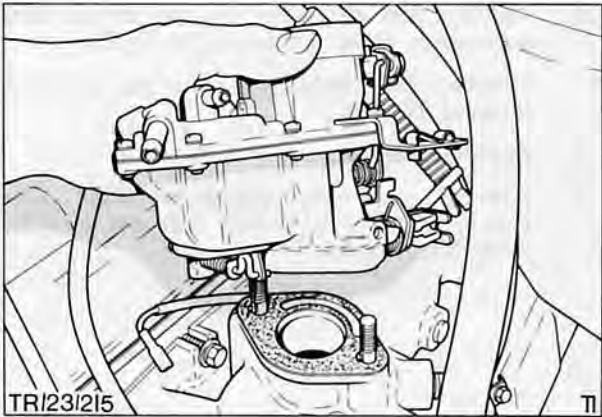

Fig. 37. Carburettor removal
8. Remove two nuts and washers and detach carburettor assembly, Fig. 37.